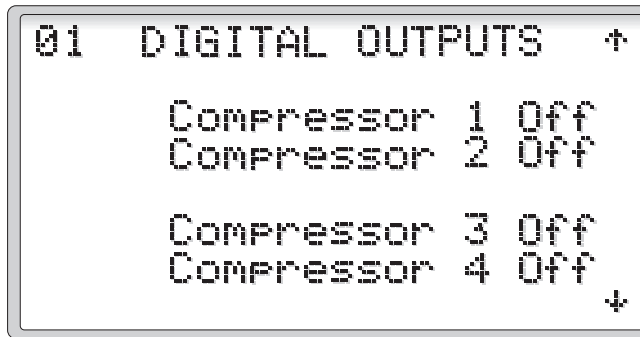

Figure 16
2.3.1.2.3 Digital Outputs (Binary) (Figures 16 and 17)